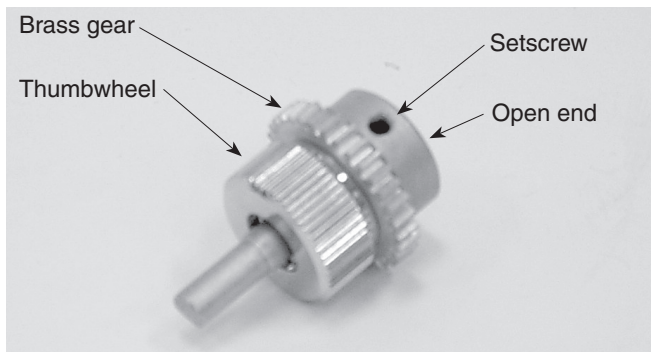

Figure 4. The manual clutch assembly.
4. Slide the open end of the manual clutch assembly (Figure 4) onto the worm gear shaft. Rotate the manual clutch